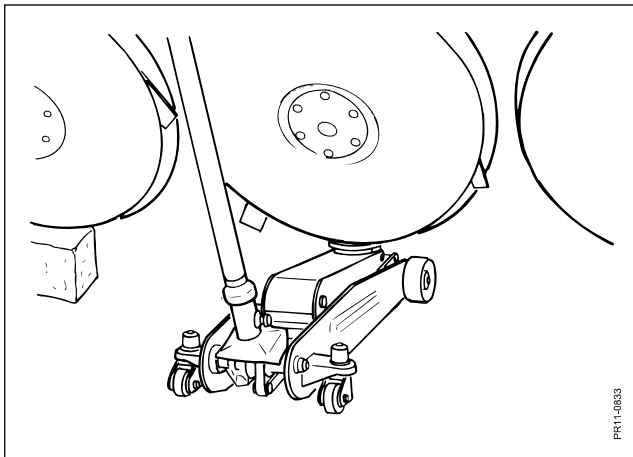

Fig. 5-5
- Fig. 5-5** until you can place a block under one of the outermost rotor skirts.